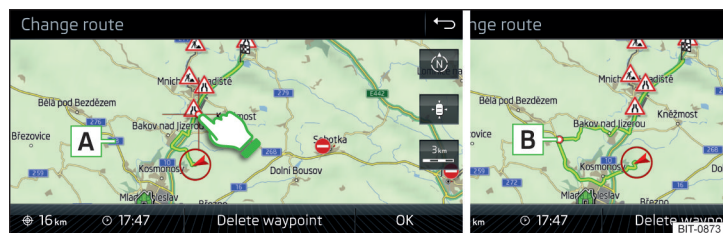

Fig. 248 Route change in the map / route transit point
- ▶ Touch the screen in the route field and move the cross-point to the desired location on the map, e.g. **A**, move » Fig. 248).
The transit point **B** is added to the route » Fig. 248.